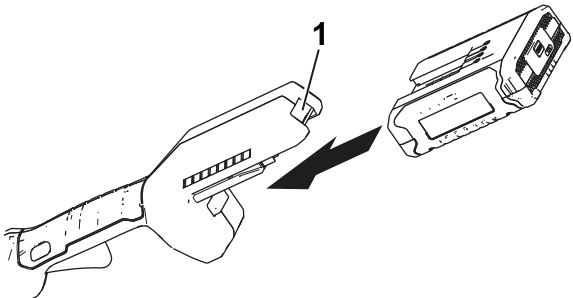

Figure 7
2. Align the cavity in the battery pack with the tongue on the handle housing (Figure 7).
3. Push the battery pack into the handle until the battery pack locks into the latch (Figure 7).